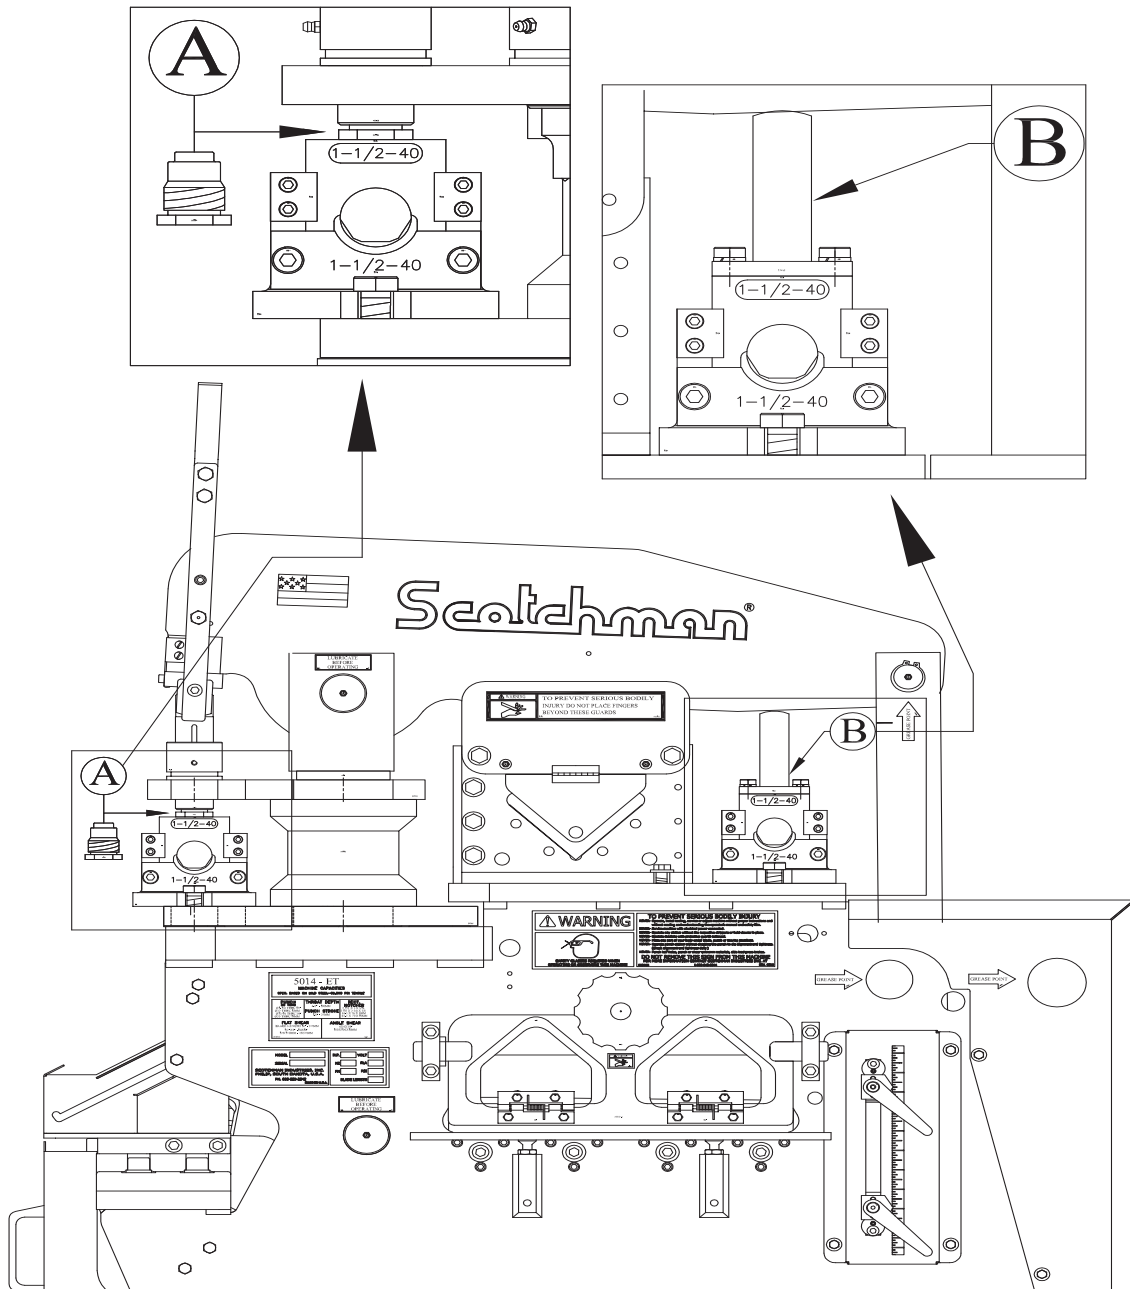

FIGURE 22
SEE FIGURE 22 BELOW.
2. Install the Punch Pusher (A) in the punch barrel.
5. Mount the pipe notcher so that it faces the operator's side of the machine, as shown in Figure 22.